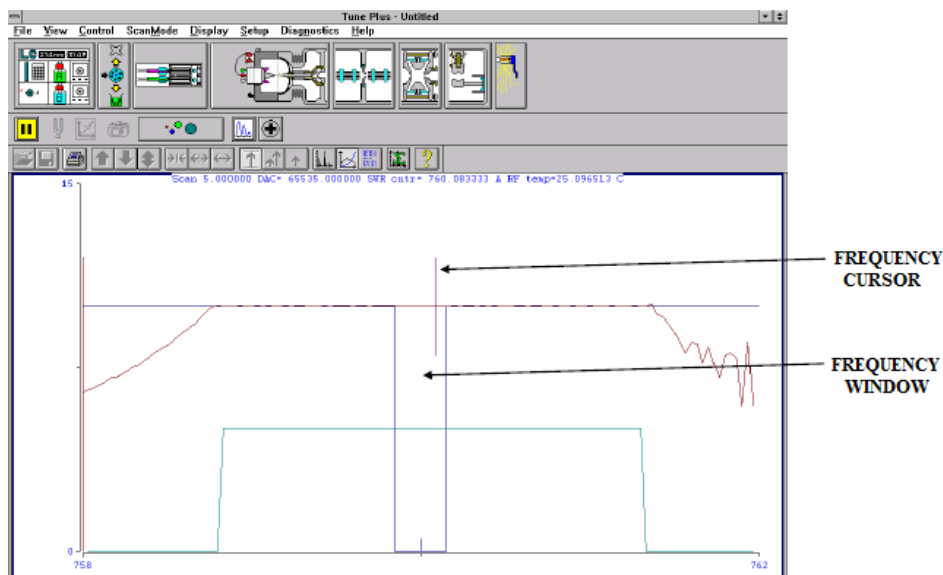

Figure12. Graph view for ring electrode RF voltage tuning.
- 8.2.2.8.2. Click on Start button. The Graph view displays several tune functions, a frequency cursor and a frequency window as shown in Figure 12.